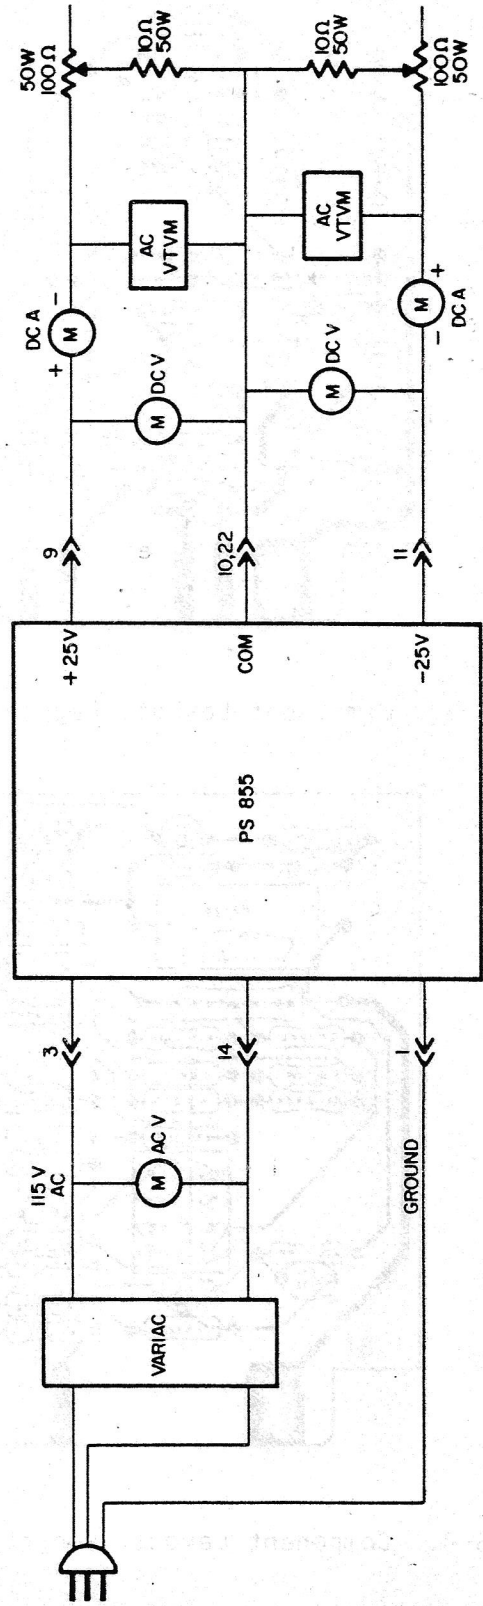

Figure 5-1. Test Setup.
- 5.06 In the following test procedures, and in the Test Setup, Figures 5-1, it is presumed that the power transformer is wired as standard, for 115V operation. If the strapping has been changed for operation on a different supply voltage, make sure the proper voltage is supplied to the unit.
- a) Set up the test equipment as shown in Figure 5-1.